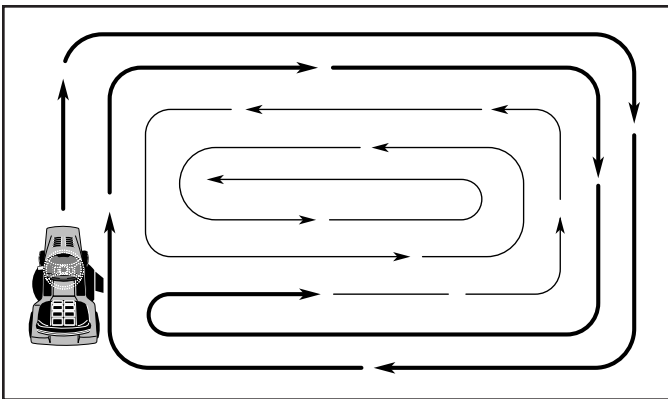

Fig. 28
- When mowing large areas, start by turning to the right so that clippings will discharge away from shrubs, fences, driveways, etc. After one or two rounds, mow in the opposite direction making left hand turns until finished (See Fig. 28).
OPERATOR PRESENCE SYSTEM AND REVERSE OPERATION SYSTEM (ROS) (See Fig. 28)